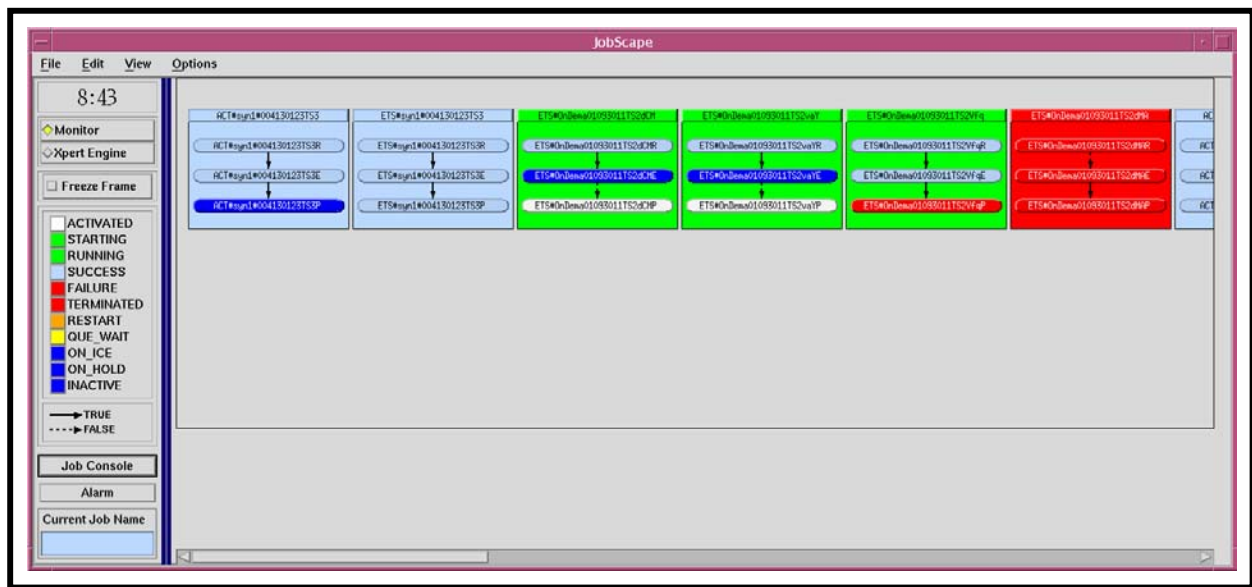

Figure 68. JobScope GUI “Small Text” View
- **Small Text View** (Figure 68) is similar to **Normal Text View** but the text and graphics are smaller.